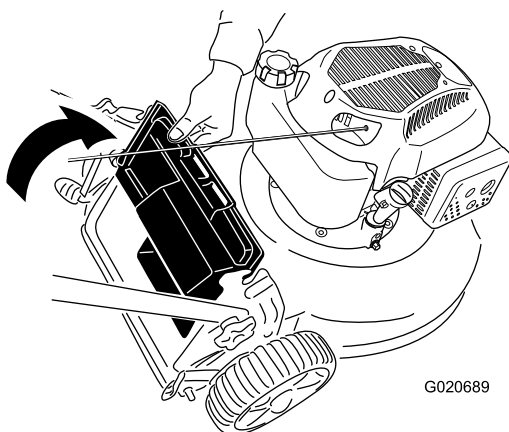

Figure 20
2. Lift up the rear deflector and hold it (Figure 20).